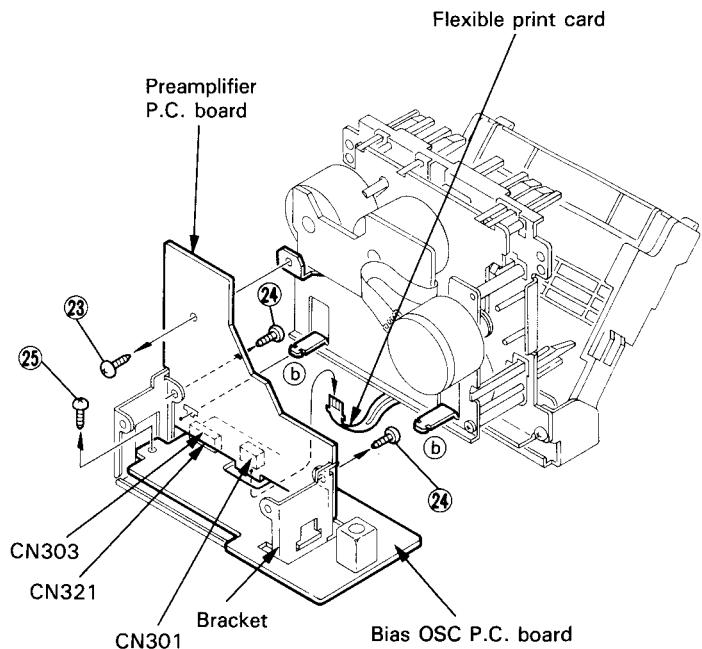

Fig. 7-20
■ Method of removing the preamplifier P.C. board and bias OSC P.C. board (Refer to Fig. 7-20)
3. From the cassette mechanism assembly, remove the one screw ②3 retaining the preamplifier P.C. board.
4. After moving the preamplifier P.C. board, remove the protruding portion ②b of the mechanism from the notched groove on the P.C. board.
5. From the bracket, remove the two screws ②4 retaining the preamplifier P.C. board.
7. From the bracket, remove the one screws ②5 retaining the bias OSC P.C. board.